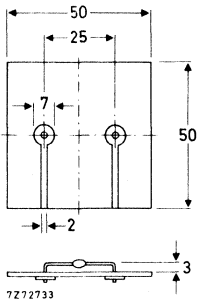

Fig. 2 Mounted on a printed-circuit board.
2. Thermal resistance from junction to ambient when mounted on a 1,5 mm thick epoxy-glass printed-circuit board; Cu-thickness $\geq 40\text{ }\mu\text{m}$; Fig. 2
——— = T_{tp} ; - - - - = T_{amb} ; Fig. 2.